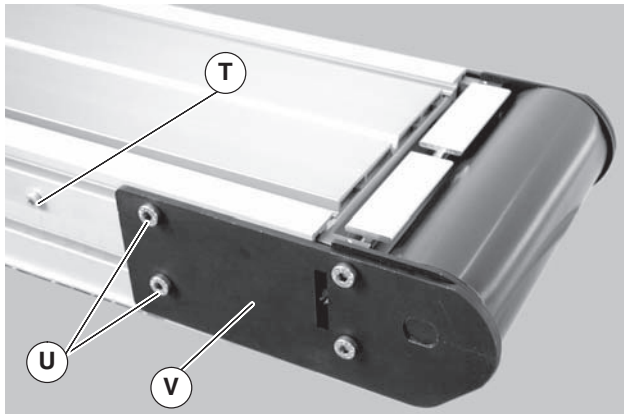
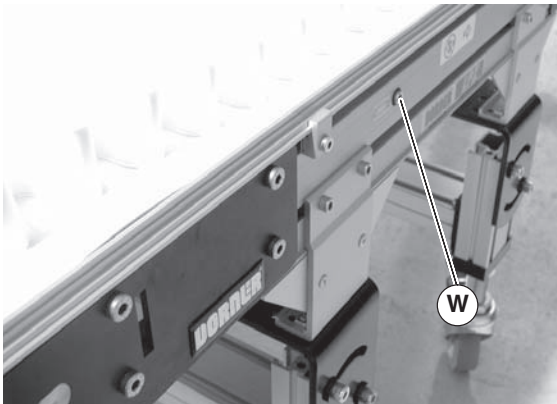

Figure 15
Figure 16
2. On tension end of the conveyor, identified by the pinion locking screw (Figure 15, item T), push in head plate assembly (V): Loosen the pinion locking screw (T), adjust the pinion torque screw (Figure 16, item W). On both sides of conveyor, loosen the two tail clamp bolts (Figure 15, item U), and push head plate assembly (V) inward.